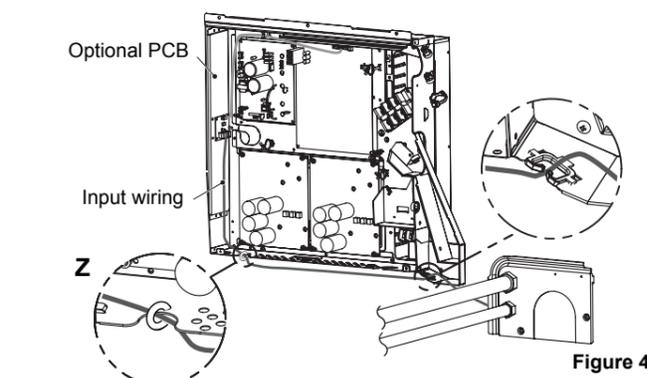

Figure 4
- (1) Tie an input wiring with the binding band A (4) at the position Z shown in the Figure 4.
- (2) Route the connection cable as shown in the Figure 4. Also, use lower conduit hole for wiring.